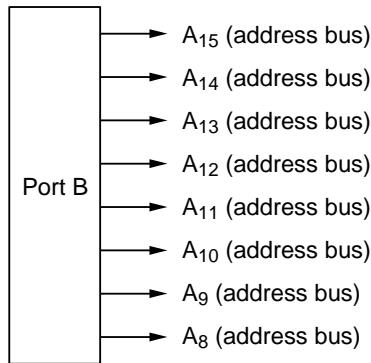

Figure 10-75 Pin Functions in Modes 1, 3, 5, and 6
**(1) Pin Functions in Modes 1, 3, 5, and 6:** Port B is used for address output ( $A_{15}$  to  $A_8$ ). The PBDDR settings are ignored. Figure 10-75 shows the pin functions in modes 1, 3, 5, and 6.